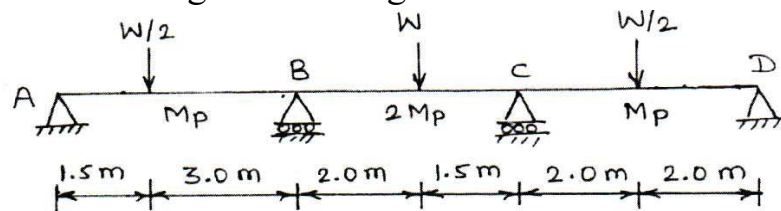

Fig. 2 (b)
b) Find value of W at collapse for the continuous beam shown in Fig. 2 (b) & Draw bending moment diagram. **[12]**